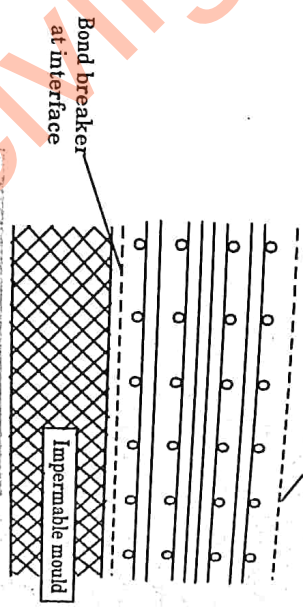

Fig. 5.15.2. Closed mould method
- 1. In this method, several mesh or mesh-and-rod combination are held together in position against the surface of a mould (Fig. 5.15.2).